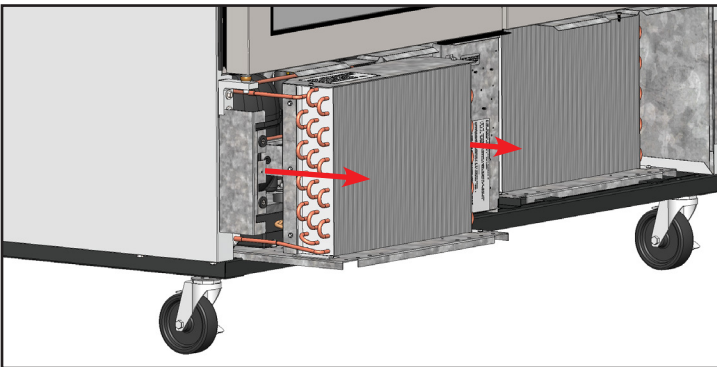

Fig. 7. Carefully slide the condensing unit out.
7. Carefully slide the condensing unit out (tubing connections are flexible). Gently blow compressed air or CO₂ through the coil until it is clean. See fig. 7.